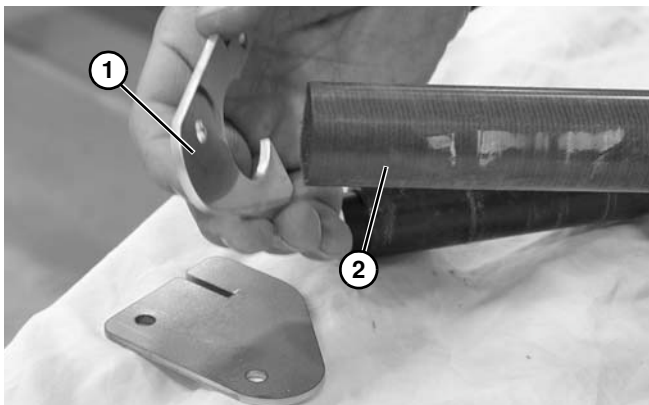

Figure 83
- If equipped, remove retaining plates (**Figure 83, item 1**) off the ends of the wear bar (**Figure 83, item 2**). Inspect bar surface. If worn or damaged, replace bar. See “Service Parts” on page 42.